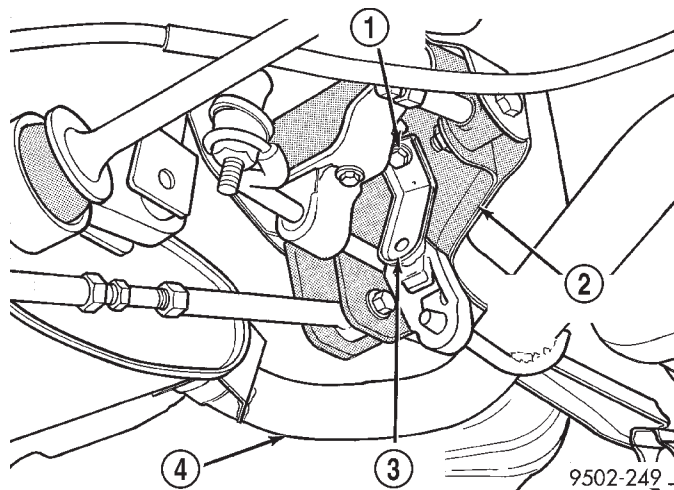

Fig. 4 Exhaust Pipe Hanger At Rear Suspension Crossmember
(5) Remove the rear exhaust pipe hanger from the rear suspension crossmember (Fig. 4). Let the exhaust system drop down as far as possible.